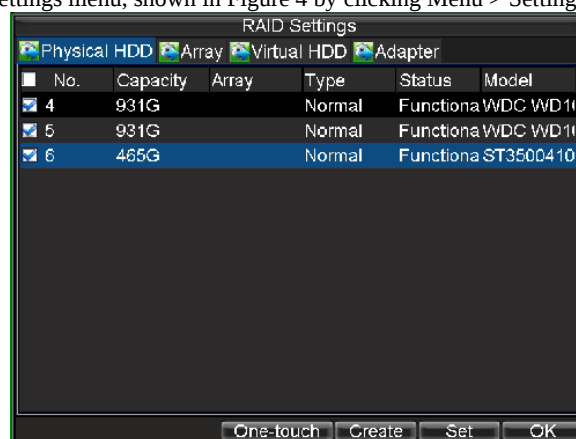

Figure 4. RAID Settings Menu
1. Enter the RAID Settings menu, shown in Figure 4 by clicking Menu > Settings > RAID.